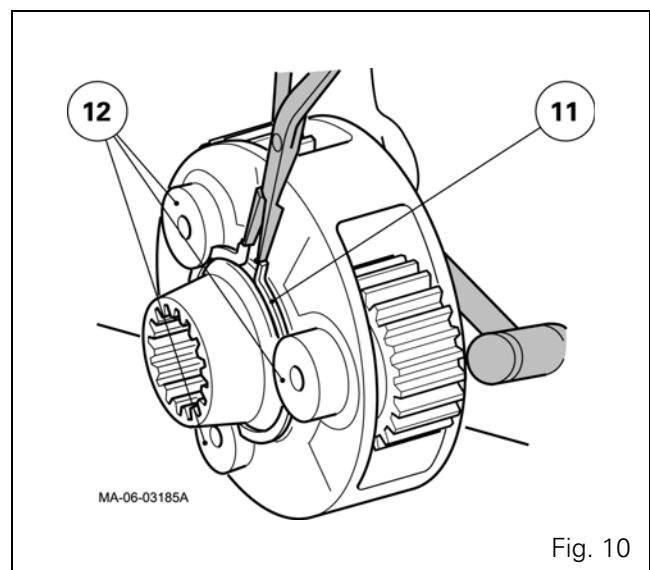
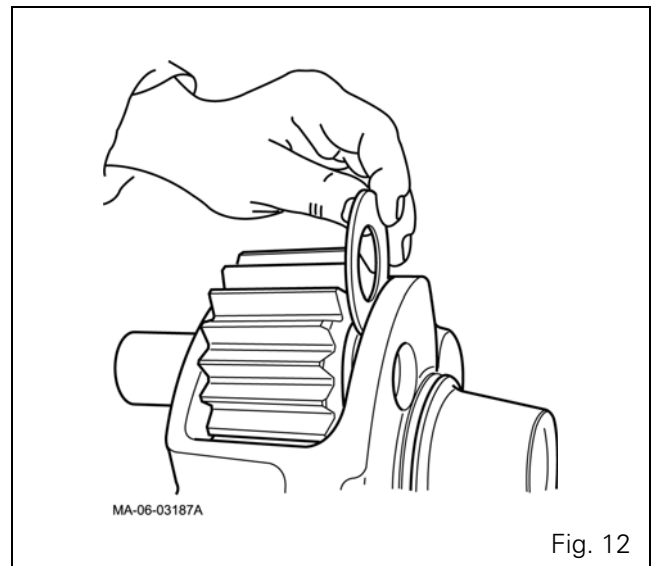

Fig. 10
Fig. 12
41. Open the snap ring (11) (Fig. 10).
42. With a hammer, lightly tap on the three pins (12) (Fig. 10).
43. Take out the three pins (12) and the snap ring (11).
44. Remove the three pinion gears (14), needles (16), spacers (15) (reinforced plant carriers A) and shims (13).
51. Pull gently on the three pins, and fit the shims (13) selected at operation 50 (Fig. 12).
52. Drive out the three pins and the snap ring (11).
53. Open the snap ring (11) (Fig. 10).